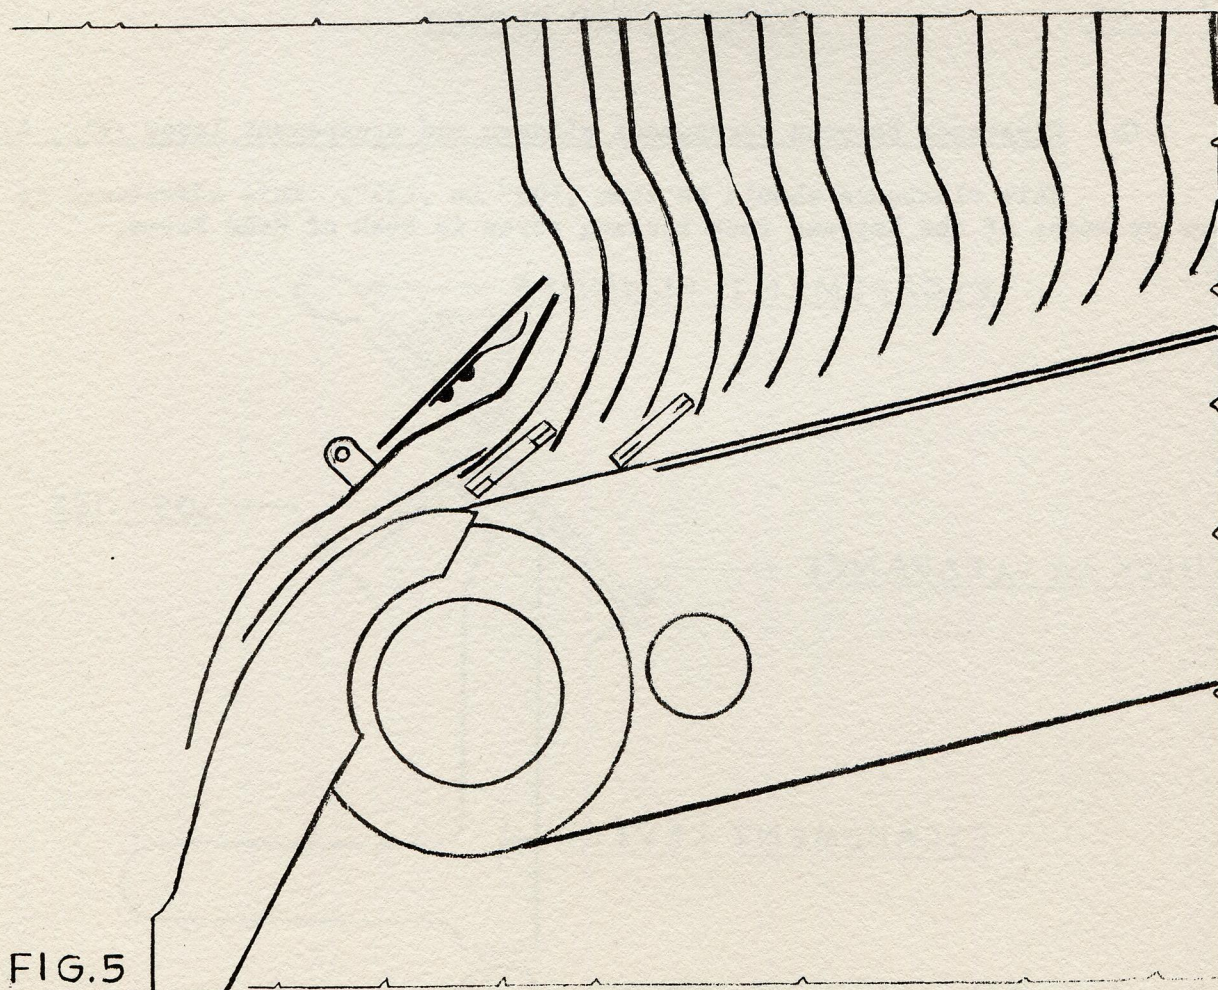

FIG. 5
(E) Relationship of assembling guides to matrix delivery belt (Fig. 5)